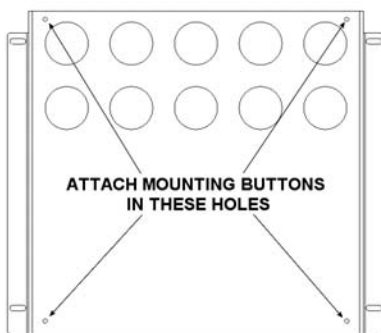

Figure 2
1. Attach mounting buttons to bracket using a 10-24 button head cap screw inserted from back side of bracket (See Figures 2 & 3).